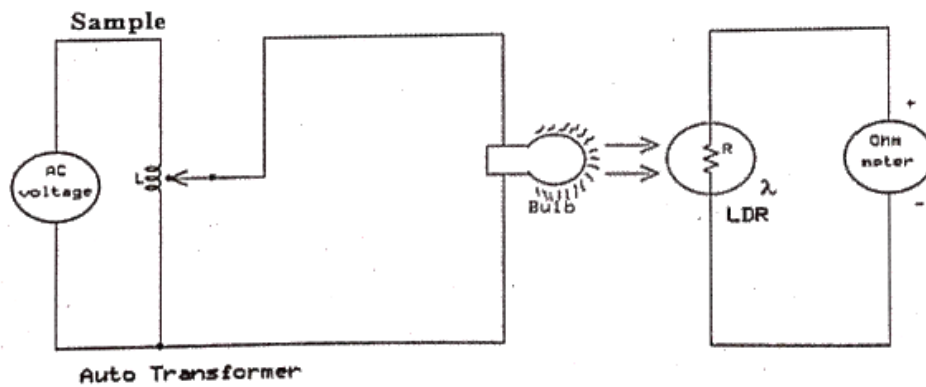

Figure 2 :- To measure the Resistance variation with light
1. Connect the circuit as shown in figure 2
2. Connect the ohm-meter section of DMM to LDR as shown in figure 2.